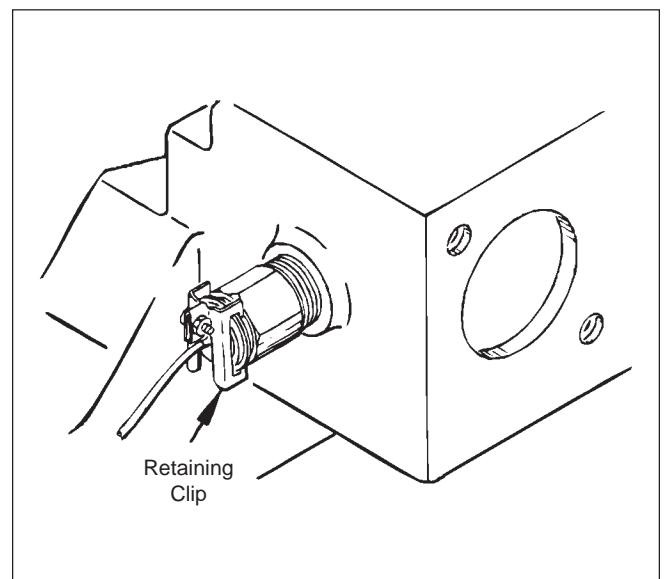

Figure 17. Retaining clip removal.
- b. Loosen the screw on the capillary tube retaining clip, then gently pry the clip apart until it comes free from the temperature control (see Figure 17).